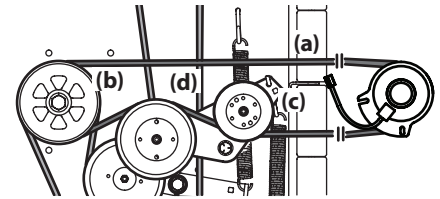

Figure 53
1. Remove the PTO belt (a) from the deck as instructed in the Deck Removal section then remove it from around the PTO clutch. See Figure 53.
2. Route the PTO belt (a) as shown in Figure 53.
3. After routing the belt around the PTO pulley (b), use a 1/2" drive in the idler pulley bracket (c) and turn towards the right of the mower to finish routing the belt around the idler pulley (d). See Figure 53.